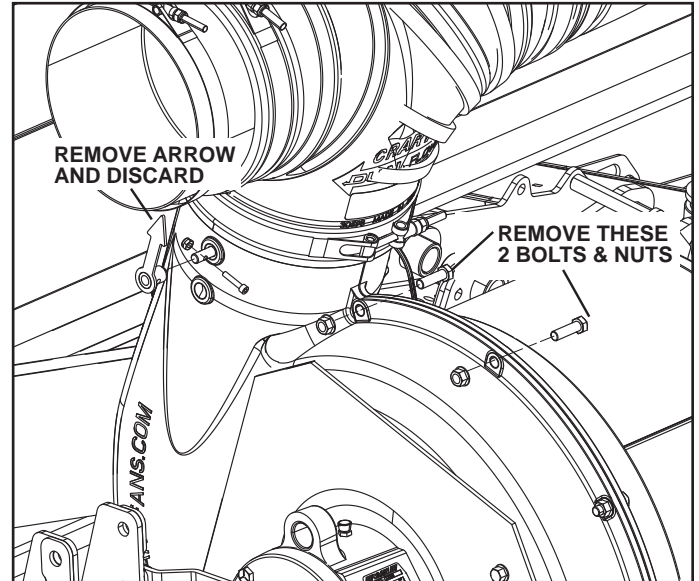

Figure 28: Prepping for Damper position indicator install
- To install the damper position indicator, remove existing arrow indicator, the hardware will be reused (Figure 28).
- Loosen and remove two 3/8" bolts at top of fan casting, hardware will be reused. (Figure 28)
- Using the provided 5/16" X 3/4" shoulder bolt & nut, attach gauge bar to link weldment ensuring free rotation of components. (Figure 28)